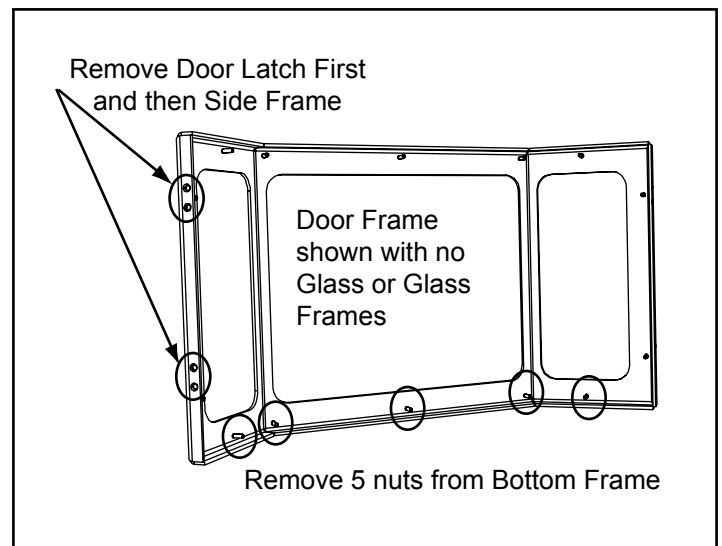

Figure 33.2
1. Using a nut driver remove the (5) bottom nuts and remove the bottom glass frame. **Figure 33.2.**